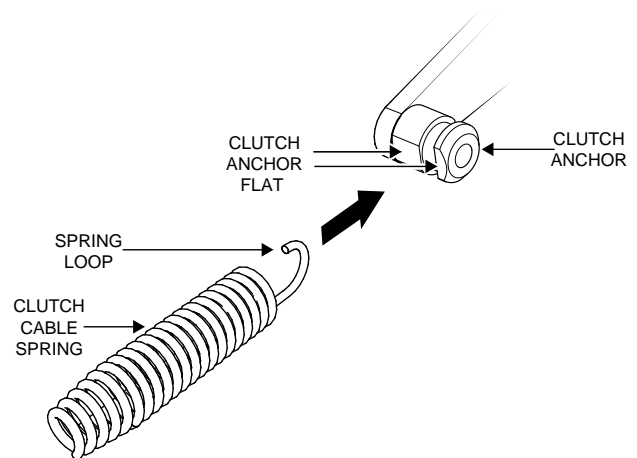

Figure 20. Spring Loop Attachment.
11. Connect the clutch cable to the clutch anchor by placing the spring loop over the clutch anchor flats as shown in Figure 20. Use needle nose pliers to slide the spring loop fully into the groove.